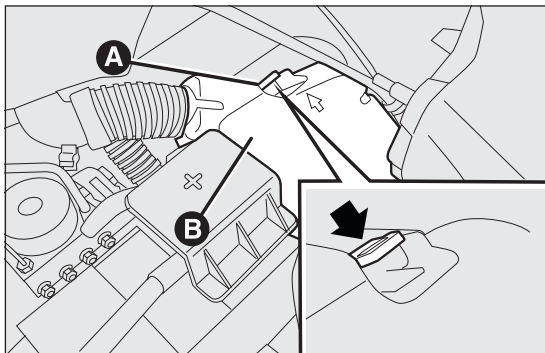

fig. 159
- press the tab A fig. 159 and remove the fuse box protective lid B;
- move the lid towards the headlight, turning it anticlockwise (as shown by the arrow) and then remove it fig. 159;